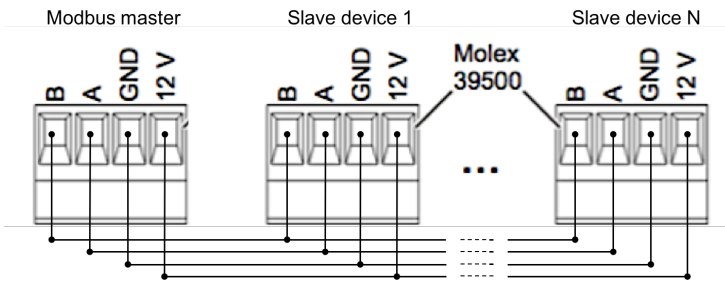

Fig. 4: Wiring the Power Meter to the Modbus Master
- ▶ Prepare the device cable (Fig. 4 shows the pin assignment.)